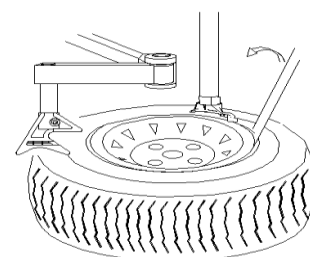

Fig 14
- a- Move the mounting head near the edge of the rim, rotate the tire pressing arm to move the tire pressing block above the tire, press the switch handle to depress the tire, and insert the lifting lever in the clearance between the tire and the rim, then hang the bead on the mounting head. (Fig 14)